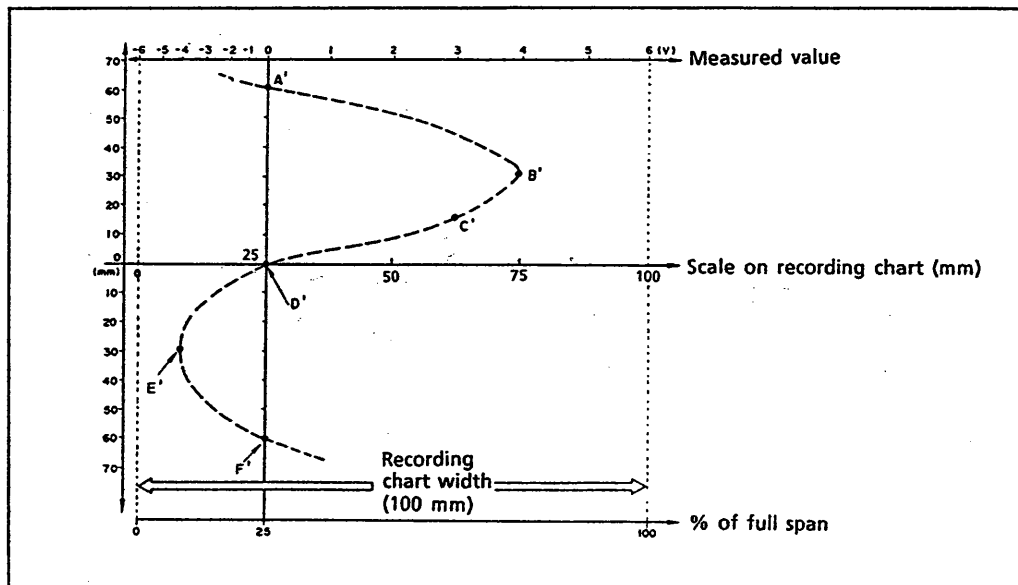

Figure 6.10.2
- Figure 6.10.2 shows partial compression recording with a 100 mm span. In this case the 0V point is positioned 25mm (25% of span) from the chart paper left margin.